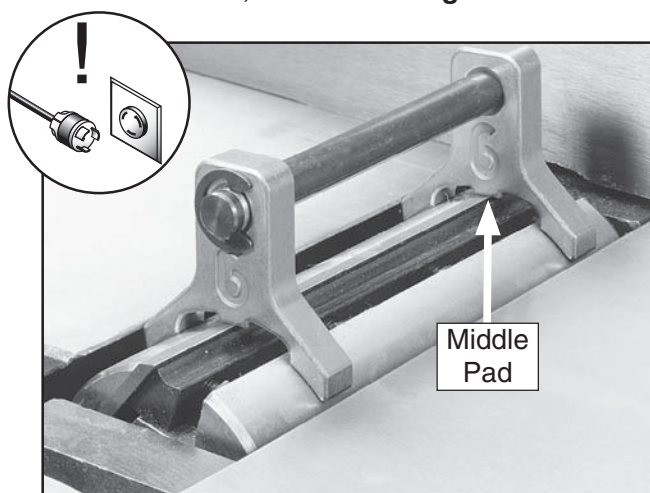

Figure 35. Jig positioned over cutterhead knife.
4. Place the knife jig on the cutterhead, directly over a knife, as shown in **Figure 35**.
- Position the knife gauge over the knife as shown in **Figure 35** and loosen the gib bolts until the knife is completely loose.